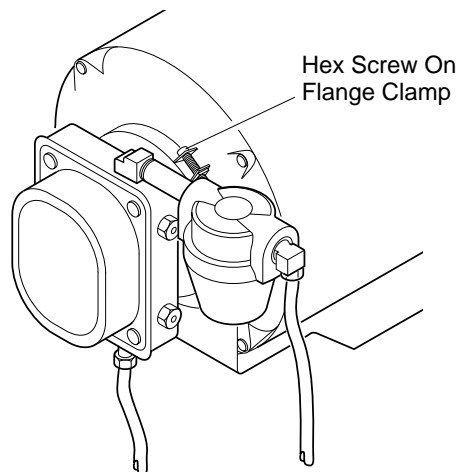

Figure 10 - Location of Screw on Flange Clamp
2. Loosen hex screw on flange clamp at rear of motor with 5/16" nut-driver (see Figure 10).